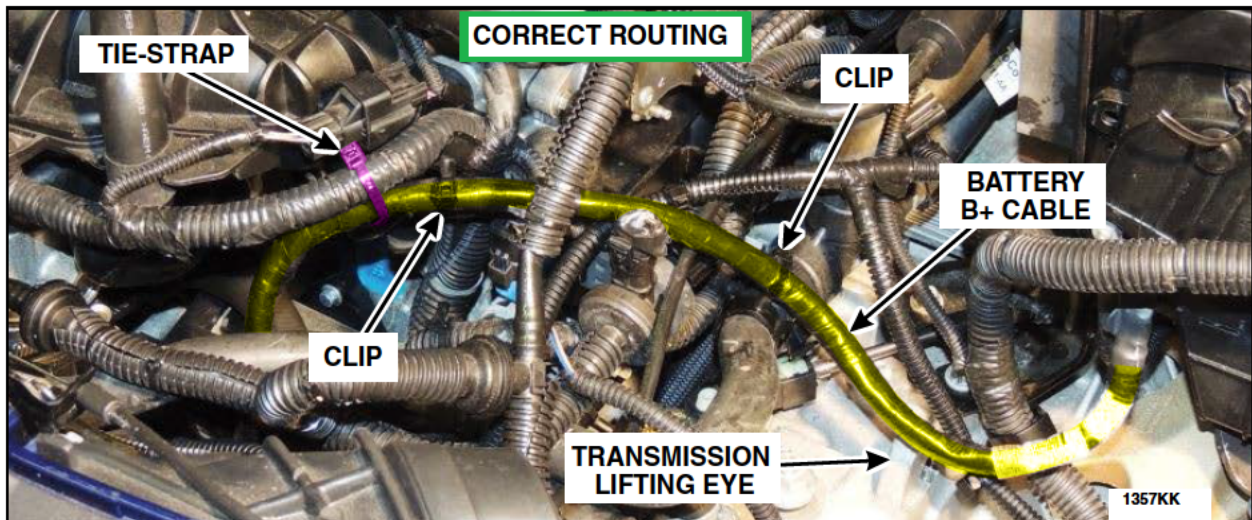

FIGURE K1
1. Inspect the battery B+ terminal cable for improper routing and/or any signs of wire and insulation damage. See Figures K1 and K2.
- A **properly routed** cable can be identified by having the cable routed from the generator across the front of the engine and with the cable secured to the main engine wiring harness with a tie-strap near the forward left side of the intake manifold. See Figure K1.
2. If the battery positive terminal cable is routed improperly and isn't damaged, pull it back through to the center of the engine compartment. Then re-route it up and near the front left side of the engine. Secure it to the main engine wiring harness using the tie-strap and existing clips as shown. See Figure K1.
3. Install the tie-strap provided in the kit to secure the starter/generator battery positive cable to the engine wire harness and prevent the cable from contacting the transmission lifting eye. See Figure K1.